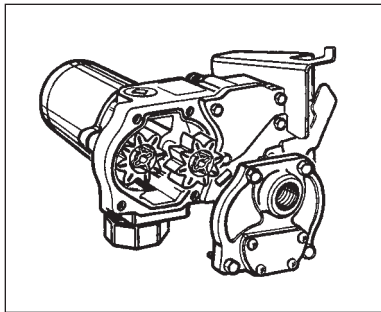

Figure 5
- Lift the drive key and gears from the pump. (Figure 5)